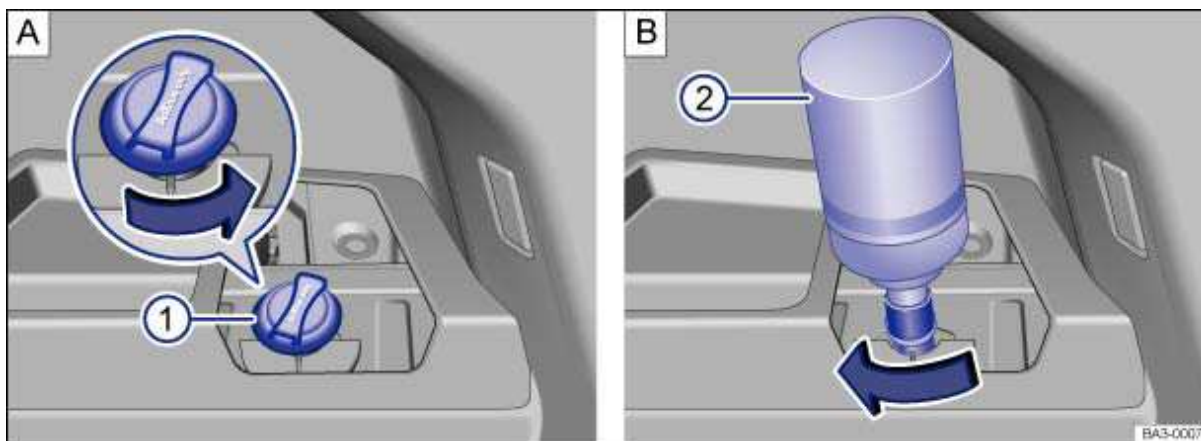

Fig. 165 AdBlue tank with filler neck cap 1 and refill bottle 2.
- Unscrew the tank filler neck cap ⇒ fig. 165 \(1\) counterclockwise and remove.